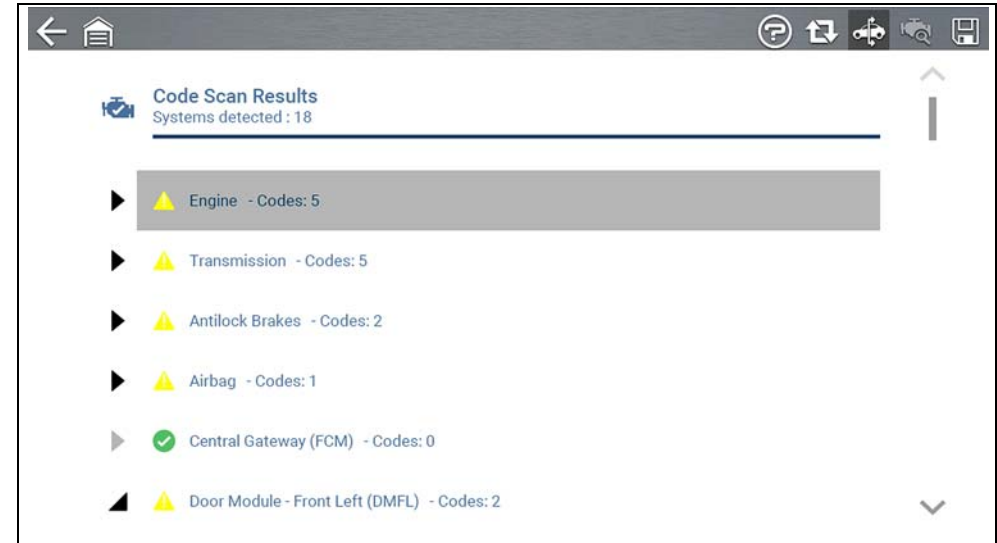

Figure 5-4
**Code Scan** runs an active scan of vehicle control modules, and then displays the results (*Figure 5-4*).